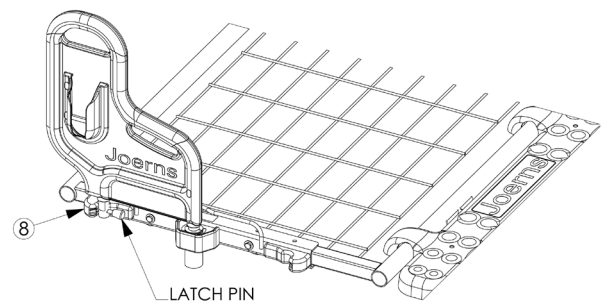

Figure 11
3. Lock the assist handle by engaging the latch pin into the latch (Item 6) (Figure 11).